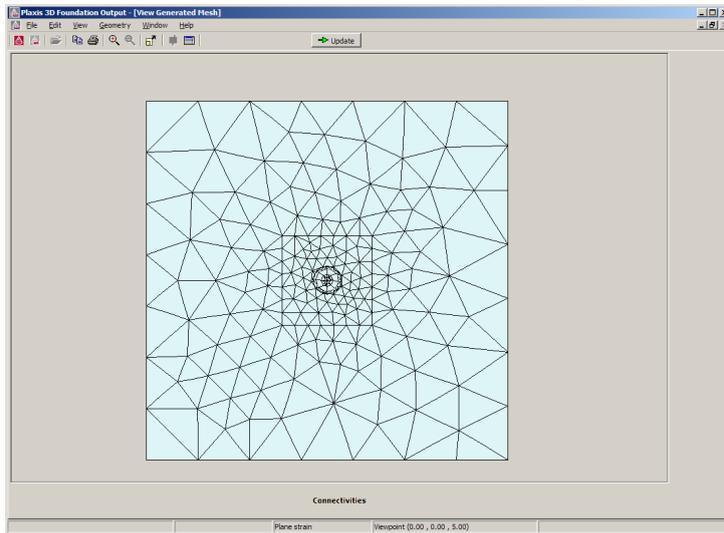

Figure 6.2 Refining the cluster surrounding the suction pile
- Inspect the resulting mesh (Figure 6.2) and click <Update> to return to the main window.